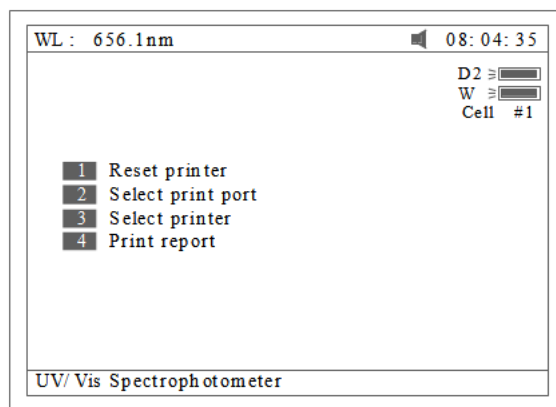
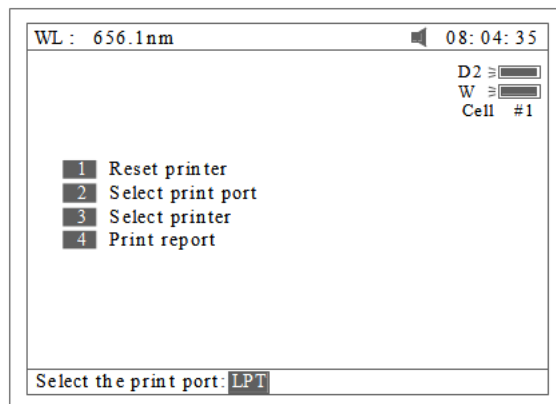
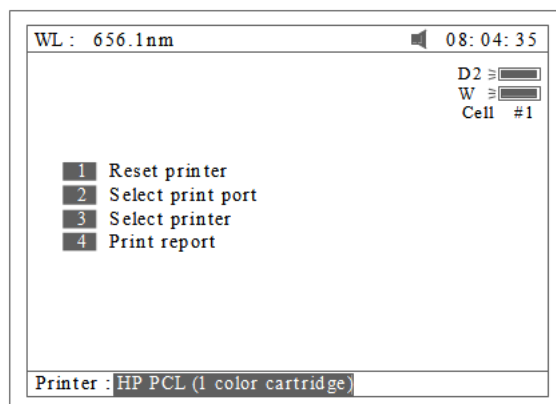
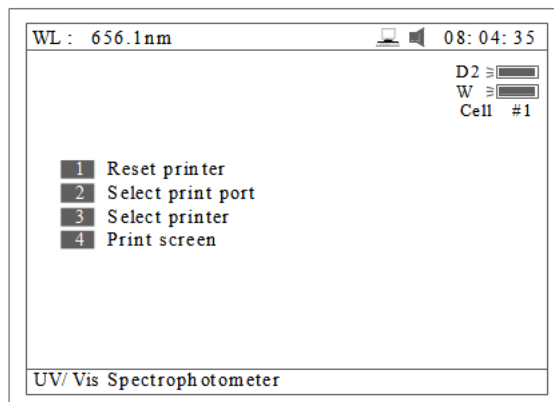

Fig 75
Fig 76
Fig 77
Fig 78
Press **【2】** to set printer (Fig 75). **【ESC/STOP】** to exit.
1. Press **【1】** in Fig 75 to Reset Printer.
2. Press **【2】** in Fig 75 to select print port (LPT or Comm., Fig 76).
3. Press **【3】** in Fig 75 to select printer (HP PCL (1 colour cartridge), PCL (black mode), Epson ESC/P or Epson/P2 or above, Fig77).
4. Press **【4】** in Fig 75 to select print mode. If you select "Print screen" mode, a little icon will be displayed on the top line of the screen (Fig 78), if you select "Print report" mode, the little icon will disappear.